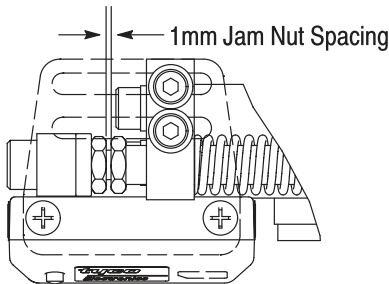

Figure 5
- Place the second jam nut on the socket head cap screw leaving a 1mm gap between the jam nuts. See Figure 5.